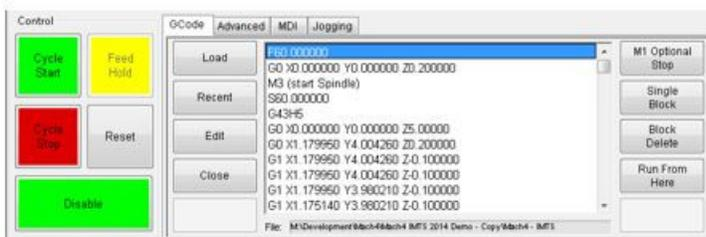

Figure 6 - G-Code Controls
1. Press the **[Load]** button (Figure 6) then select a G-Code file and press **Open]**
5. Press **[Cycle Start]** to run the program (Figure 6)
6. If it is necessary to stop in the middle of a program to inspect the part **Feed Hold]** (Figure 6)
7. If it is necessary to end a program before it has completely run press **Cycle Stop]** (Figure 6)
1. Click the [**Single Block**] button (Figure 6)
2. Press [**Cycle Start**] button to begin the file (Figure 6)
The Block Delete option (Figure 6) allows for specially marked lines to be ignored when running a G-Code file. Consider the following:
1. Use the Up/Down arrows in the G-Code file window to select the line to start from (Figure 6)
2. Press the [**Run From Here**] button (Figure 6)
7. Press [**Cycle Start**] to begin the file at selected starting line (Figure 6)